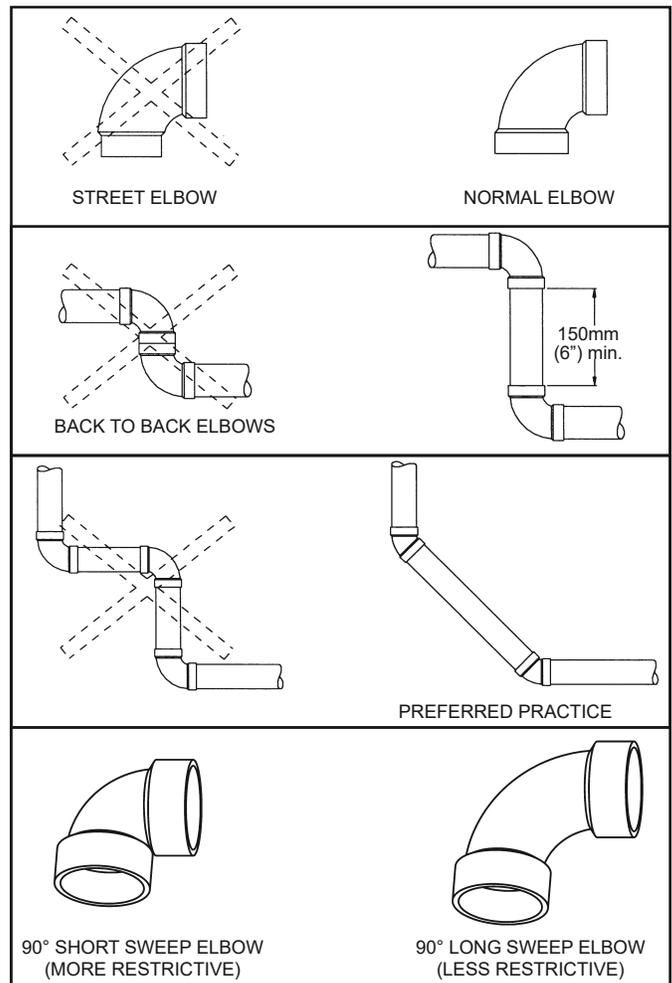

Figure 30.
Note: The information provided in Figure 30 is intended as a guideline for good vent installation practices only and is not intended to restrict venting options beyond those restrictions established by the current edition of the **“Natural Gas and Propane Installation Code” B149.1** or any applicable local and provincial codes.
3. Avoid using 90° elbows “back to back” and do not use street elbows. Maintain a minimum 6” straight section between elbows. Closely coupled and short radius elbows reduce the venting capacity. Figure 30 shows examples of vent pipe connections.